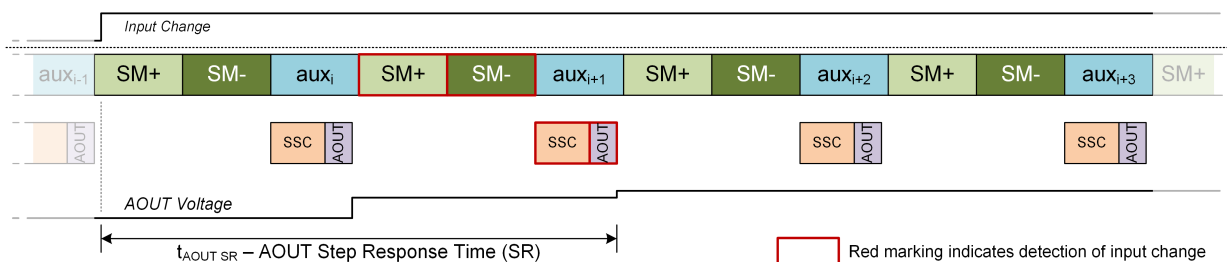

Figure 23: SM+/SM- Step Response
For SM+/SM- configuration the worst-case step response is shown in Figure 23 and consists of:
- SM+/SM- configuration: refer to Figure 23 and description for step response in subsubsection 4.6.3